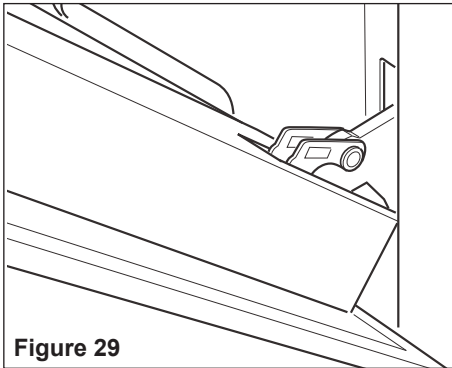

Figure 29
1. Make sure the door is locked open (see fig. 29).